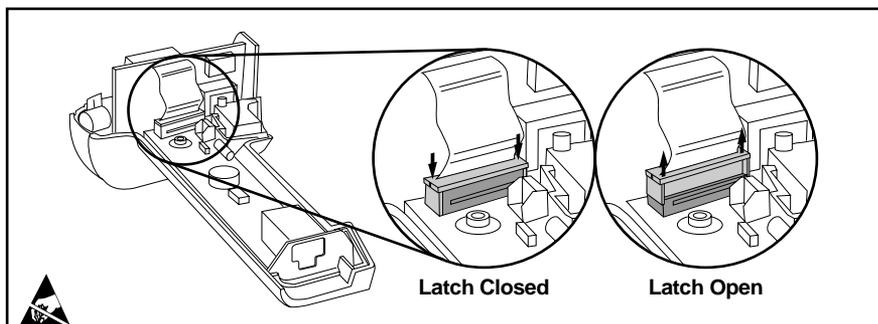

Figure 7. Connecting/Disconnecting the Handle PCB (Decoded Models)
3. Lift up on the latch securing the Scan Engine-to-Handle PCB harness as shown in Figure 7 and disconnect at the Handle PCB connector. Note that on undecoded models, the Scan Engine-to-Handle PCB harness will be narrower.
3. Insert the Scan Engine-to-Handle PCB wire harness into its connector as shown in Figure 7, and, when fully seated, press down on the latch to secure it in place.